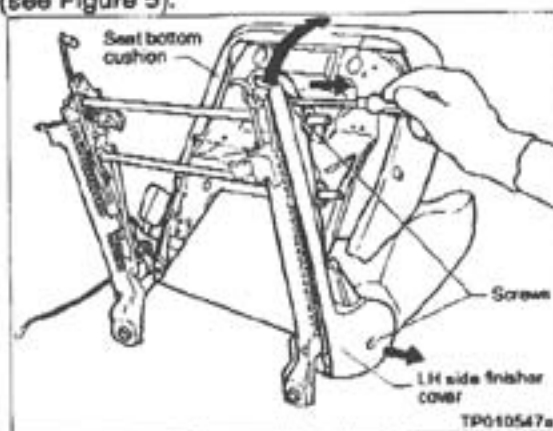

Figure 5
7. Pull the seat bottom cushion away from the seat frame and remove the LH side finisher cover (2 screws) (see Figure 5).